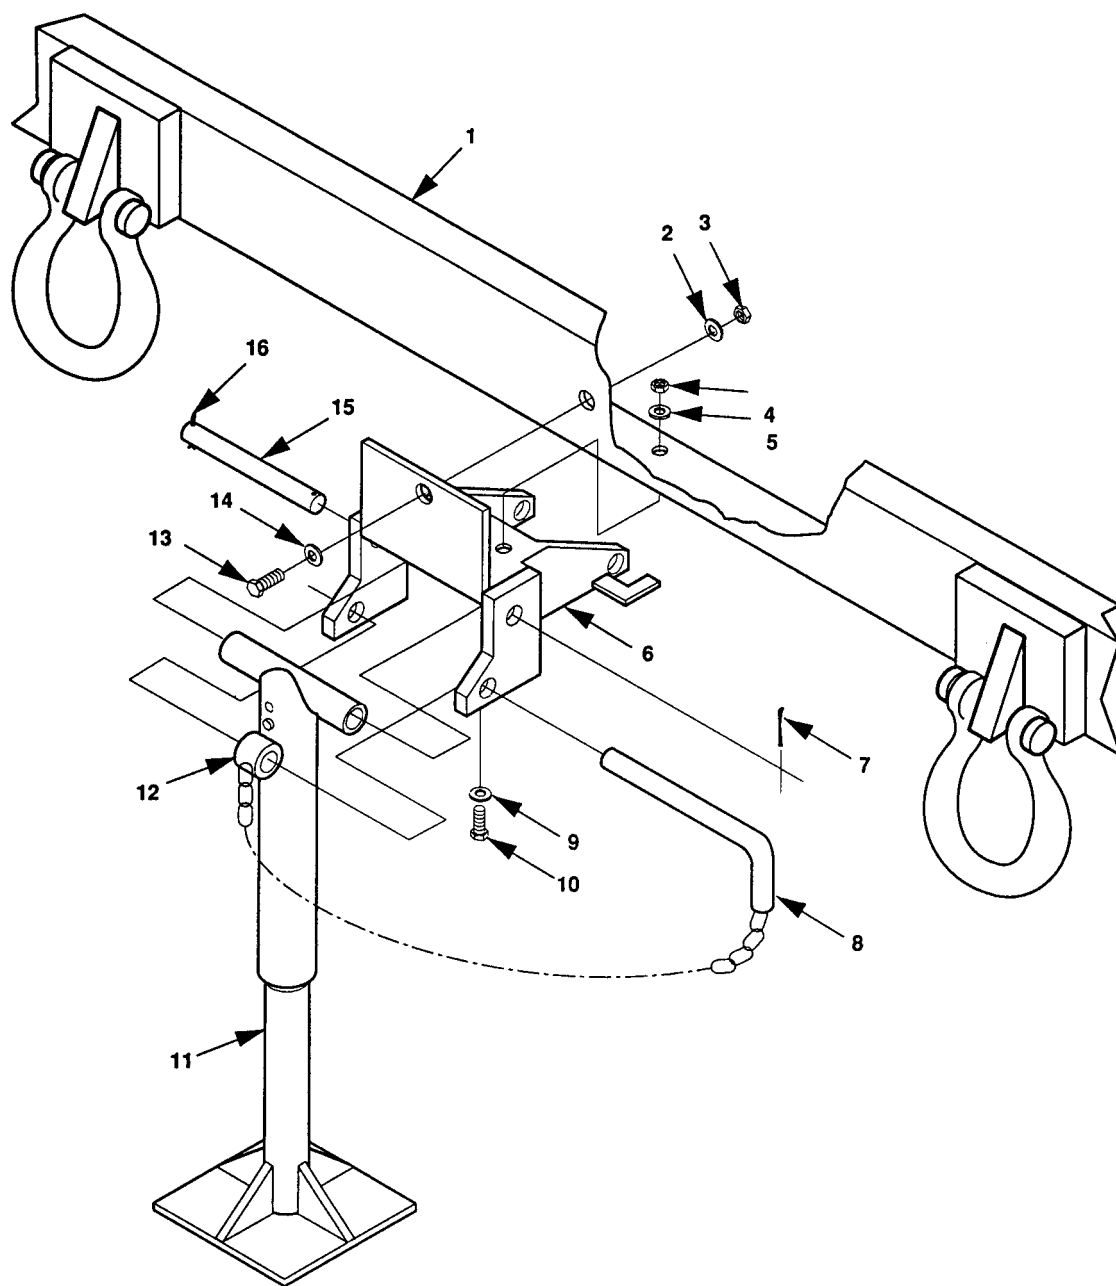

Figure 4-26. Leveling-Support Jack Replacement, 1 Ton Trailer.
2. Turn leg base (11, figure 4-26) to take weight off leveling-support jack.
3. Remove either one of two cotter pins (16 or 7) from pivot shaft (15) and discard.
4. Hold leg base (11) steady and remove pivot shaft (15) with remaining cotter pin (16 or 7) in place.
5. Lift leg base (11) slightly to take weight off retaining pin (8) and remove retaining pin (8). Move leg base (11) and attached parts out of bracket (6).
6. Remove two self-locking nuts (4), four flat washers (5 and 9), and two screws (10).
7. Remove self-locking nut (3), two flat washers (2 and 14), and screw (13). Remove bracket (6) from trailer chassis.
1. Install bracket (6, figure 4-26) on trailer chassis (1), with flat washer (14) and screw (13), through mounting hole in bracket (6) on trailer chassis.
2. Install flat washer (2) and a new self-locking nut (3) on screw (13).
3. Install screws (10), flat washers (9 and 5), and new self-locking nuts (4).
4. Position leg base (11) in bracket (6) and install retaining pin (8).
5. Position leg base (11) and install pivot shaft (15).
6. Install new cotter pin (16 or 7) in pivot shaft (15).